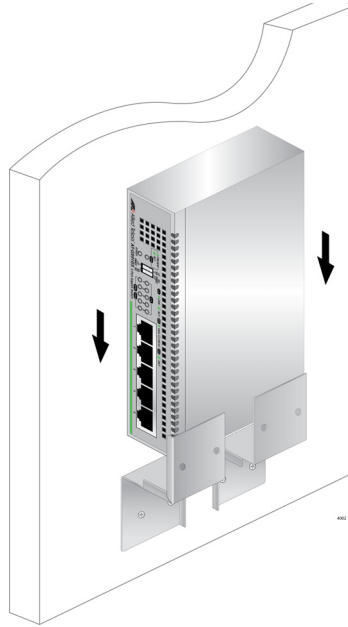

Figure 33. Placing the Switch into the Brackets
7. Slide the switch into the brackets on the wall as shown in Figure 33.